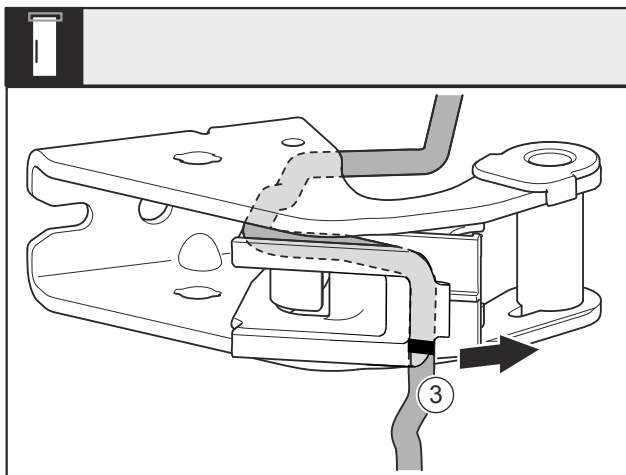

Fig. 27
- ▶ Remove the cable with the cable holder Fig. 27 (3) from the swap bearing block.